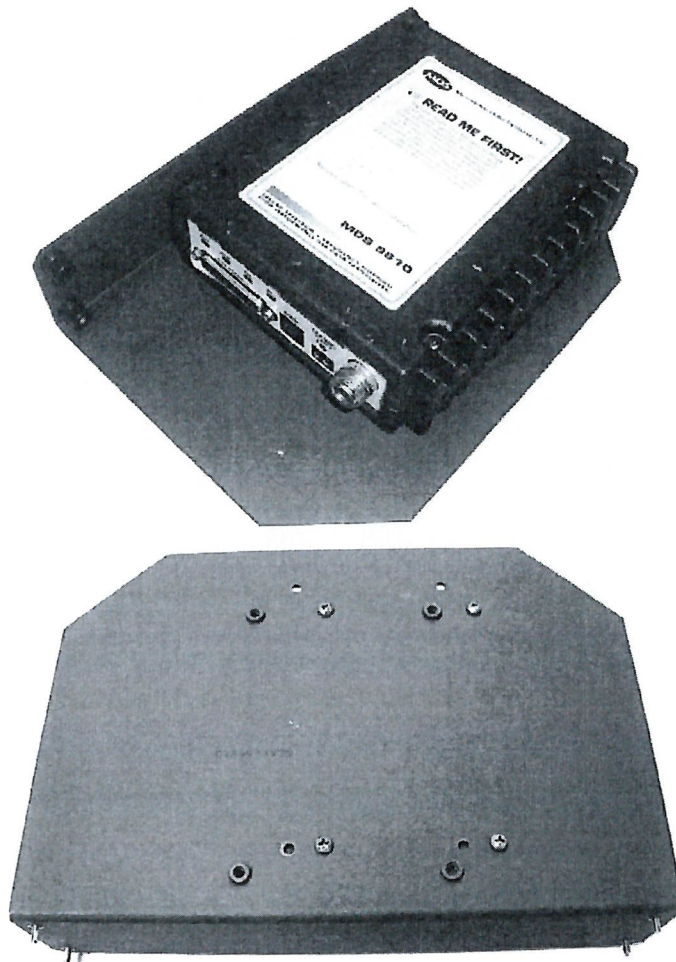

Figure 13-52 MDS Radio Mounted on Metal Bracket - Front and Rear View
1. Connect the radio to the bracket provided in the Hardware Kit (#0789971V39 from FHN7066A) using the four screws, supplied with the bracket. (See Figure 13-52 below.)